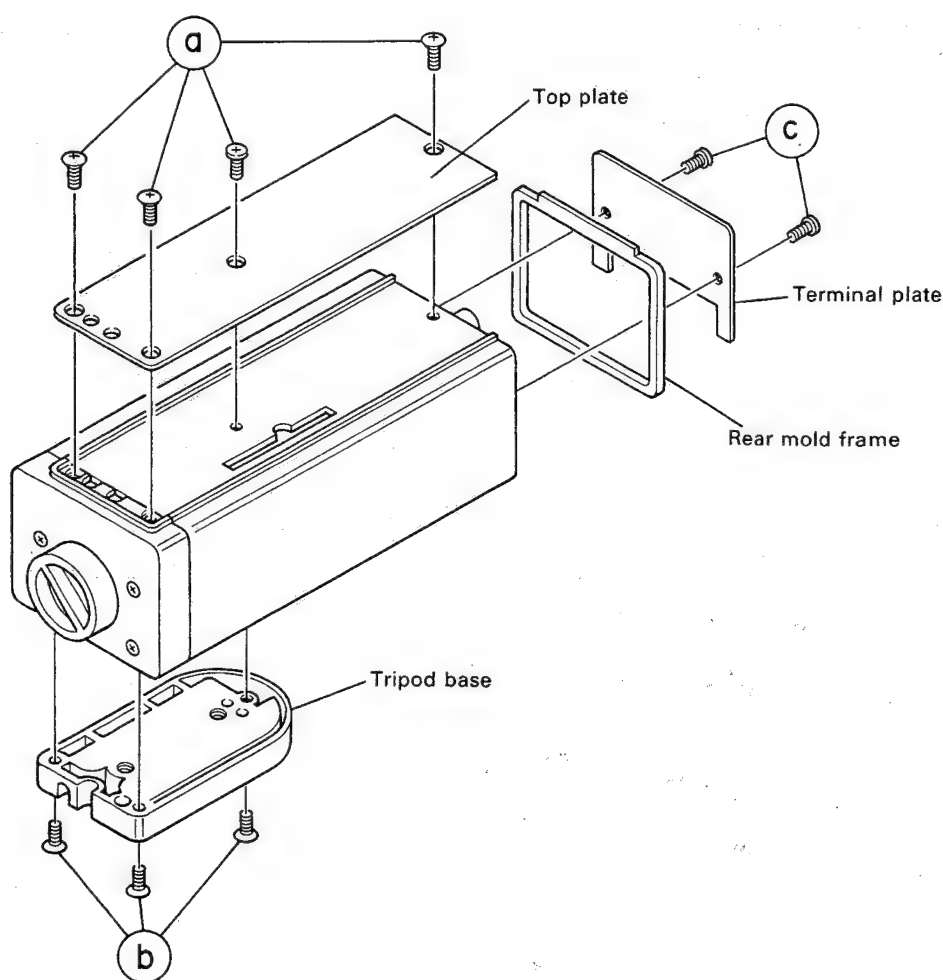

Fig. 1
- (1) Remove the four screws (a) shown in Fig. 1 and take out the top cover.
- (1) Remove the three screws (b) shown in Fig. 1 and take out the tripod base.
- (1) Remove the two screws (c) shown in Fig. 1 and take out the terminal plate and the rear mold frame.